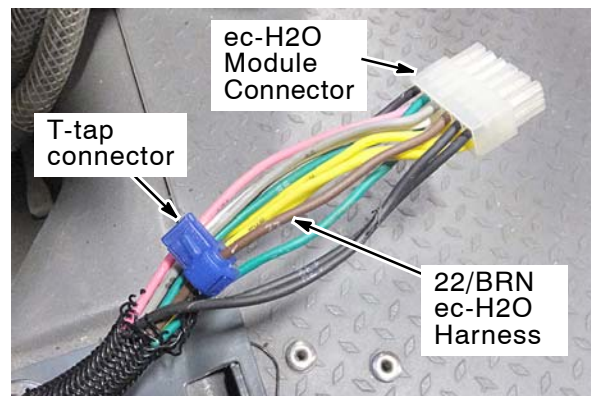

Fig. 14
- B. Remove about 6 inches of the braided insulator from the end of the ec- H2O connector harness. Locate wire 22/BRN and add T- tap connector (25) to wire as shown. (Fig. 14)